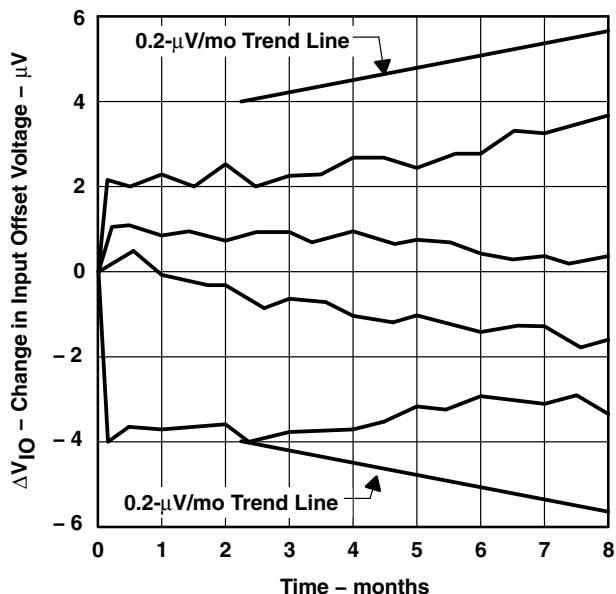

Figure 3
4. Long-term drift of input offset voltage refers to the average trend line of offset voltage versus time over extended periods after the first 30 days of operation. Excluding the initial hour of operation, changes in V_{IO} during the first 30 days are typically 2.5 μV (see Figure 3).